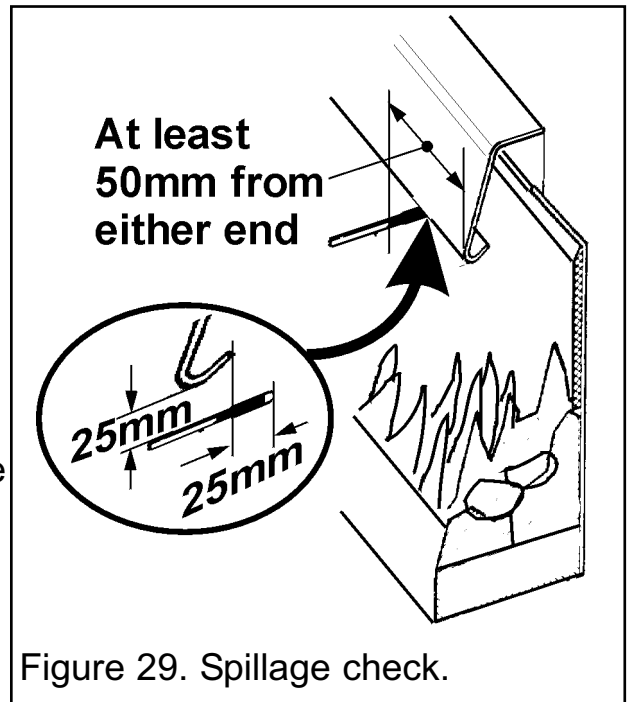

Figure 29. Spillage check.
4. Place the smoke match into the appliance canopy (See figure 29).